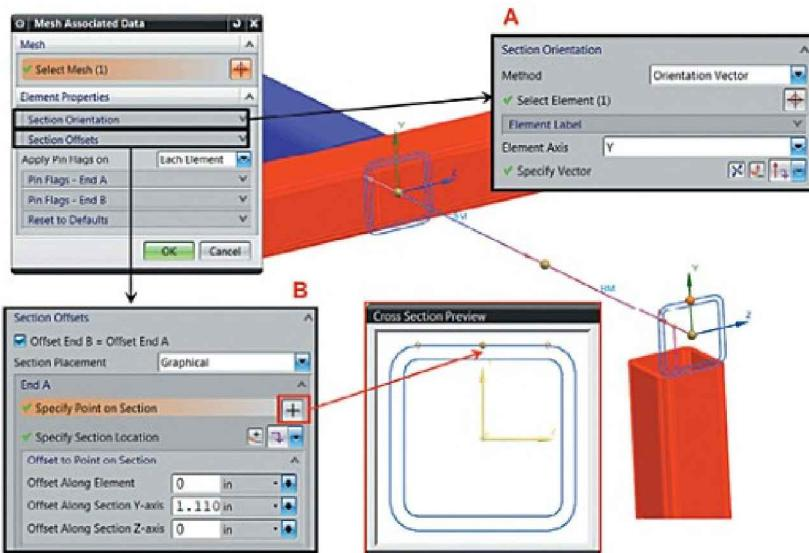

Figure 3.57. Associated data of beam elements
An important aspect of creating beam elements is spatial orientation. A beam element has its own coordinate system where the OX axis is always directed along the geometry object that served as the basis of the element. Correct orientation of OY and OZ axes of the element coordinate system is typically established during section and mesh creation, but you can always reorient it using the **Edit Mesh Associated Data** command. You can use mesh associated data to specify a new orientation or offset a section with full control of active degrees of freedom of element nodes (Figure 3.57). Despite the apparent complexity of the mesh associative data dialog box, all its parameters are intuitive:
- In the *Section Orientation* group, you can select the spatial direction of one of the specified element axes (Figure 3.57, A).
- *Graphical:* a point on the section (Figure 3.57, B) is combined with a point belonging to another geometry object or with a point created in space using a shortcut menu. This method is especially effective if you need to describe a 3D body with beam finite elements.